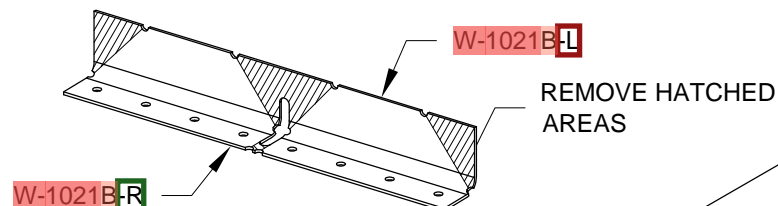

FIGURE 1: STIFFENERS
Step 2: Mark then break apart the **W-1021B** Flap Gap Stiffener to create the **W-1021B-L** and **R** Flap Gap Stiffeners as shown in Figure 1.